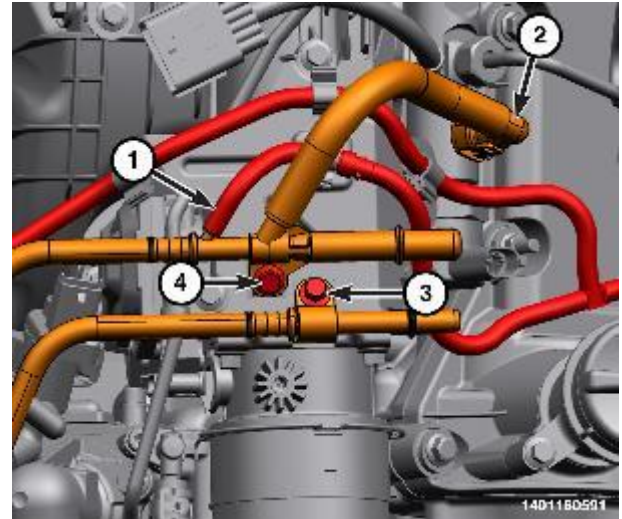

Figure 158 – Return Lines (1,2) and Bolts (3,4)
- 22. Disconnect the fuel return lines (1, 2) (Figure 158).
- 23. Remove the fuel supply line bolt (3) and return line bolt (4) and both lines (Figure 158).